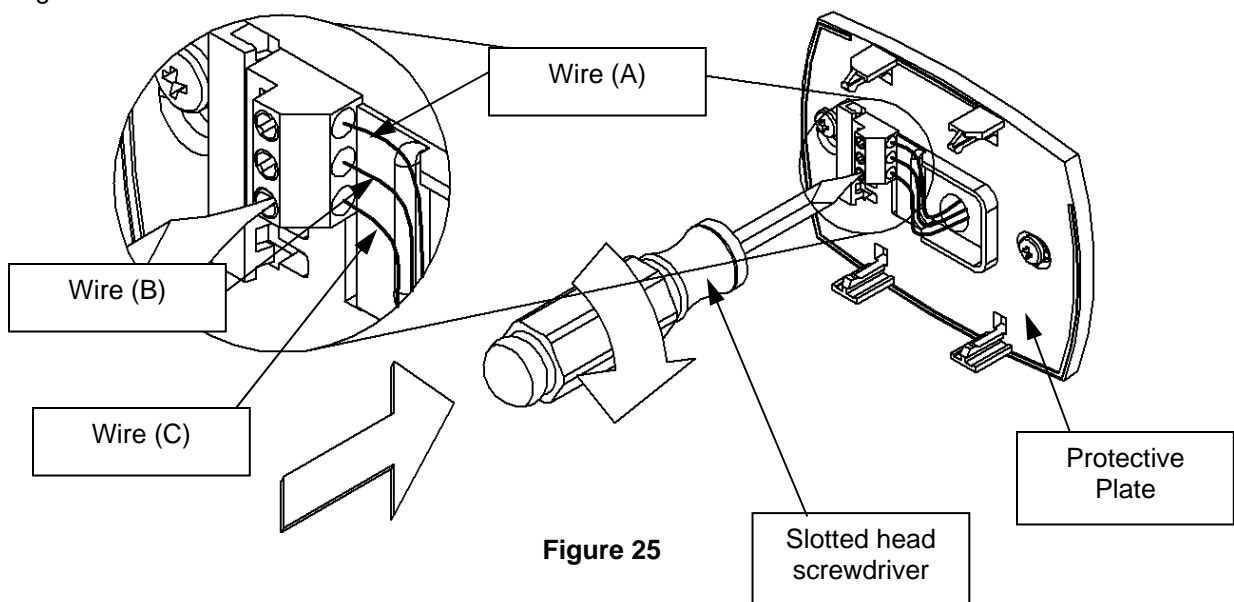

Figure 25
Step 20: Tighten the slotted screw in the bottom terminal location on the Protective Plate. This is shown in Figure 25.